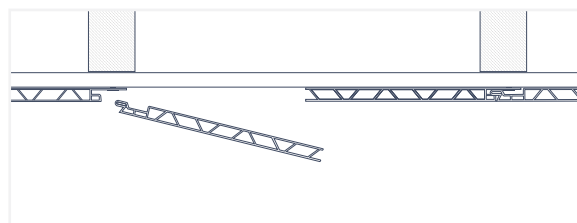

Fig. 31
3. The side of the panel with the tongue should easily slide out of the adjacent panel (Fig. 31).